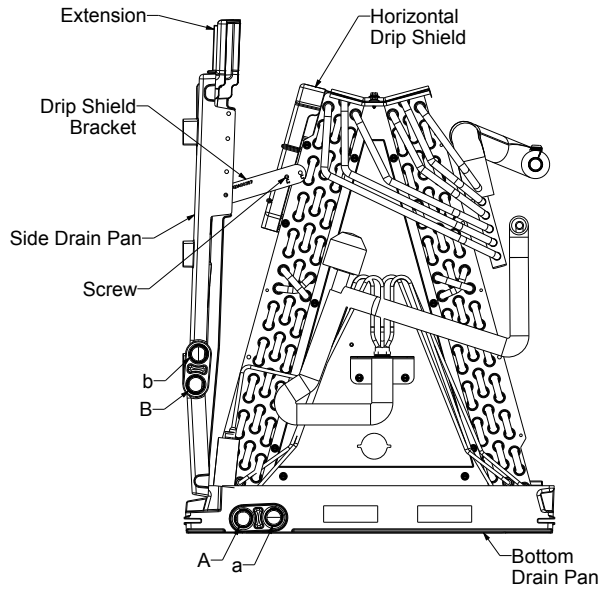

Figure 1
**Side Drain Pan and Extension Removal:** Refer to Figure 1; remove the two (2) screws that secure the drip shield support brackets to the horizontal drip shield (front and back). Unsnap the side drain pan from the bottom drain pan using a screw driver or any small lever. The side drain pan, drip shield brackets and the drain pan extension may now be removed. From Figure 1, drain port labeled (A) is the primary drain for this application and condensate drain line must be attached to this drain port. Drain port (a) is for the secondary drain line (if used).
Drain port labeled (B) in Figure 1 is the primary drain for this application and condensate drain line must be attached to this drain port. Drain port (b) is for the secondary drain line (if used).
Drain port labeled (B) in Figure 1 is the primary drain for this application and condensate drain line must be attached to this drain port. Drain port (b) is for the secondary drain line (if used). In applications where the air handler is installed in the horizontal left position, and the return air environment see humidity levels above 65% relative humidity coupled with total external static levels above 0.5" e.s.p., installation may require a field fabricated or field supplied secondary drain pan under the coil cabinet enclosure.